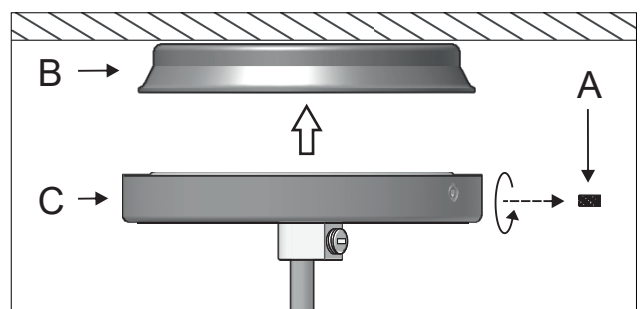

Figure 5
5 - Place the canopy back (C) and fasten the side screw (A) previously removed. Figure 5.